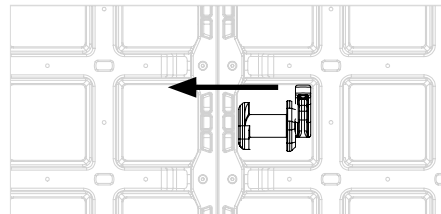

Fig. A3.03b
1. Insert the DUO coupler (**21**) into the connector pocket up to the limit stop. (Fig. A3.03b + A3.03c)